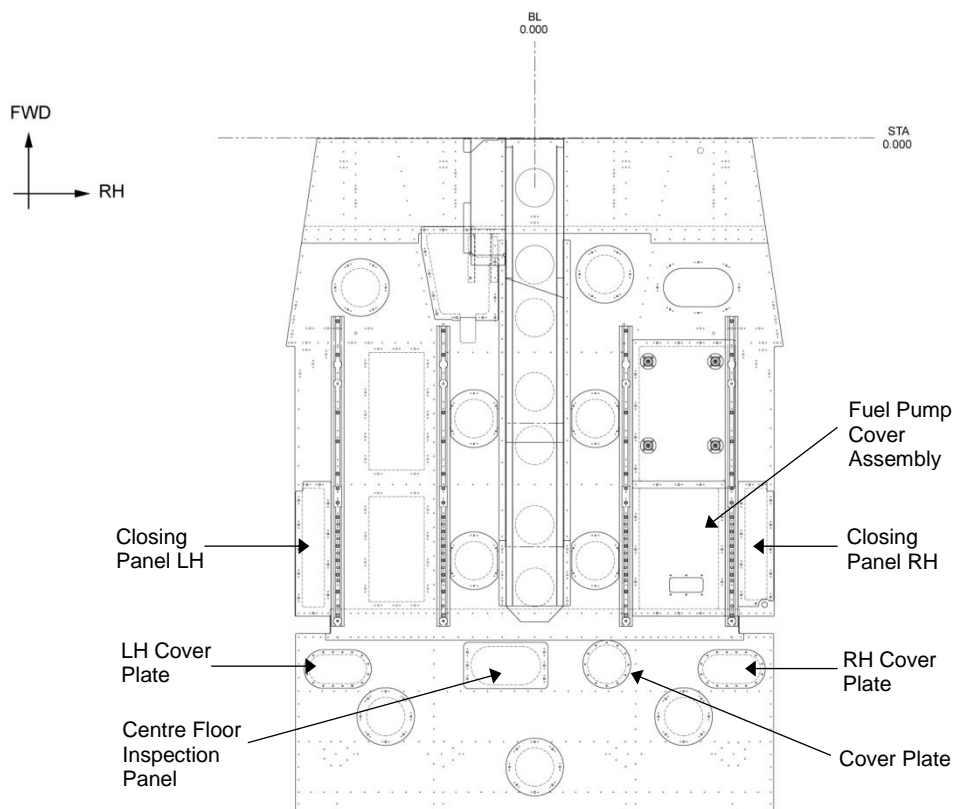

Figure 9: Fuselage Floor Inspection Panels
- 1) Remove Closing Panel LH (GA8-533022-037) and Closing Panel RH (GA8-533022-151) (See Figure 9).
- 2) Remove Centre Floor Inspection Plate (GA8-533022-155) (See Figure 9).
- 3) Remove the Fuel Pump Cover Assembly (GA8-533017-011) (See Figure 9).
- 4) Remove the Cover Plate (GA8-533028-033), if fitted (See Figure 9).
- 5) Remove the LH and RH Cover Plates (GA8-533028-047), if fitted (See Figure 9).